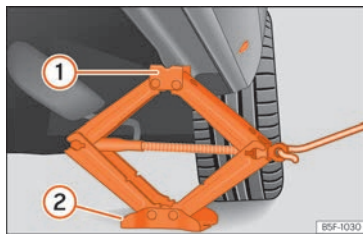

Fig. 199 Crossbar: mounting the jack on the vehicle.
- Turn the jack crank handle, located below the strut support point, to raise it until the tab **①** >>> **Fig. 199** is below the housing that is provided.
- Align the jack so that the tab **①** "grips" onto the housing provided on the cross member and the mobile base **②** is resting on the ground. The base plate **②** should fall vertically with respect to the support point **①**.